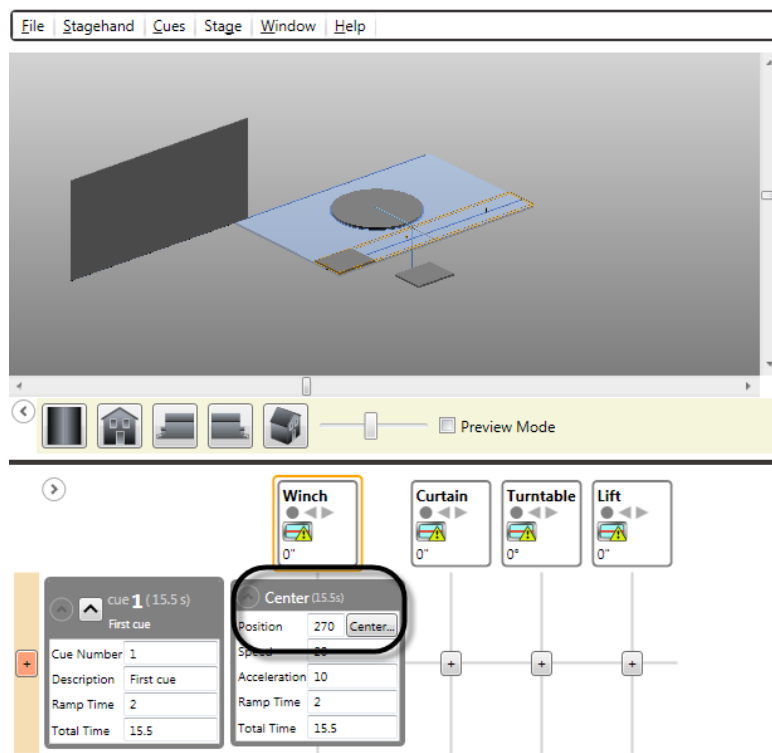

Figure 225
9. The selected Spike will display in the motor’s movement for the cue (Figure 225).